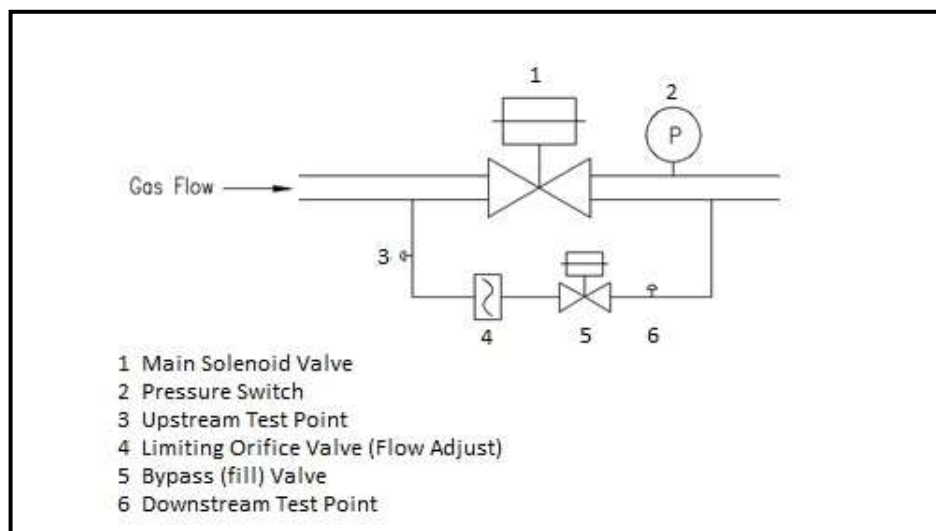

Figure 1a – Gas Train Components
1. DO NOT turn on any power. Leave keyed power *Isolator Switch* (5) in OFF position.
7. Using a manometer, check the upstream inlet gas pressure (refer Fig. 1a position 3), to confirm it is as per the designed operating pressure rating. Record the result.